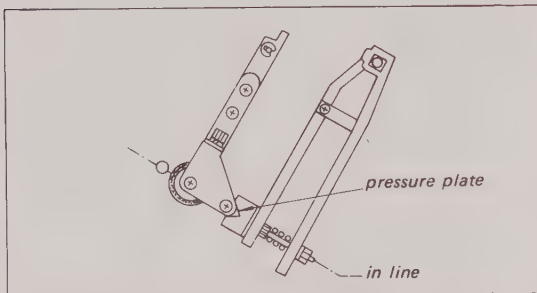

Fig. 5-11 (b). Pinch roller replacement and adjustment
3. Move the Threading Ring by hand to the play position. Loosen the screws A in Fig. 5-11 (a) and set the Pinch Roller Pressure Plate, the Pinch Roller and the Capstan in a straight line. See Fig. 5-11 (b). Tighten the screws A.